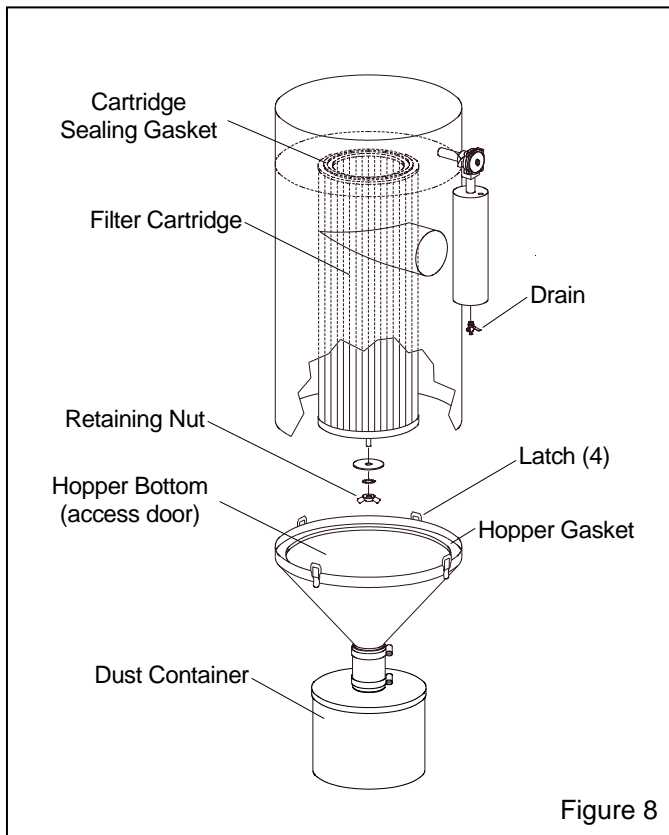

Figure 8
7.11 Filter Cartridge Replacement, Figure 8